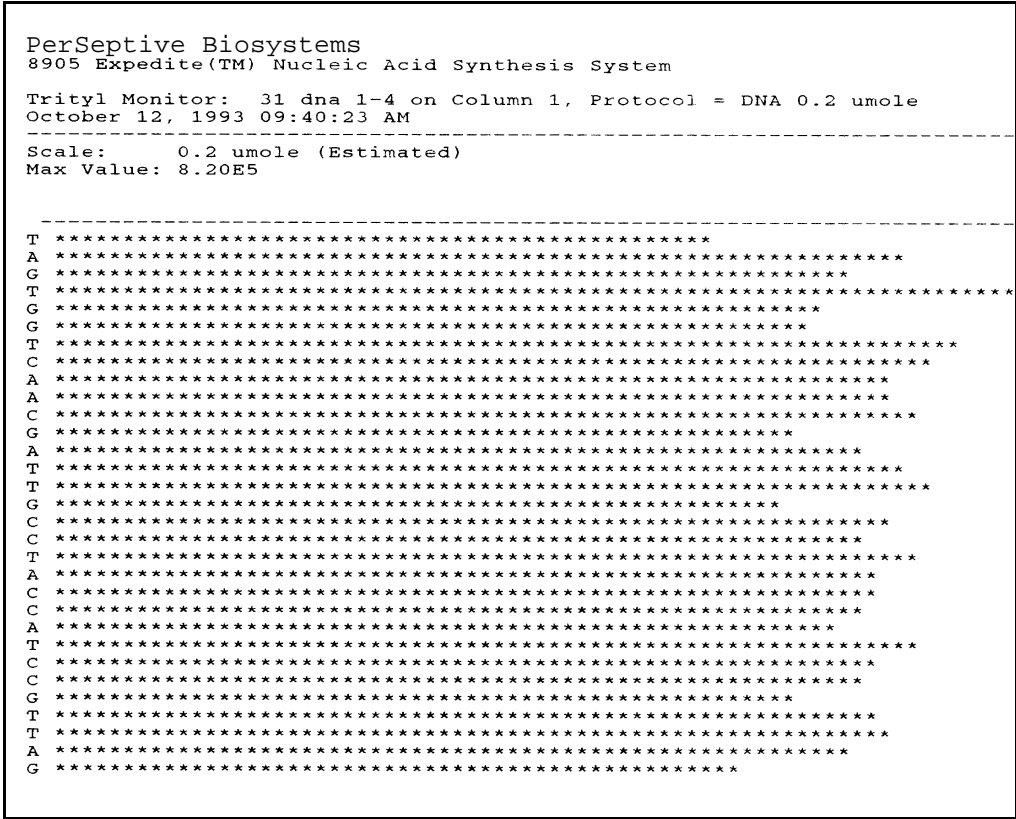

Figure F-5 Trityl Data Printout
- **Print** provides a printout similar to that shown in Figure F-5.
- The DMT deblocking rate differences for various monomers. Typically the DMT group is removed from a G residue in the shortest period of time which results in a more intensely colored solution. Conversely, the DMT group is removed from a T residue in the longest period of time which results in the least intensely colored solution. Because the absorbance intensity is not linearly proportional to the concentration of DMT, the amount of DMT is underestimated for a G residue and is most representative for a T residue. Therefore, the bar for a G residue is somewhat smaller than the average and the bar for T residues is somewhat larger than average (see Figure F-5).